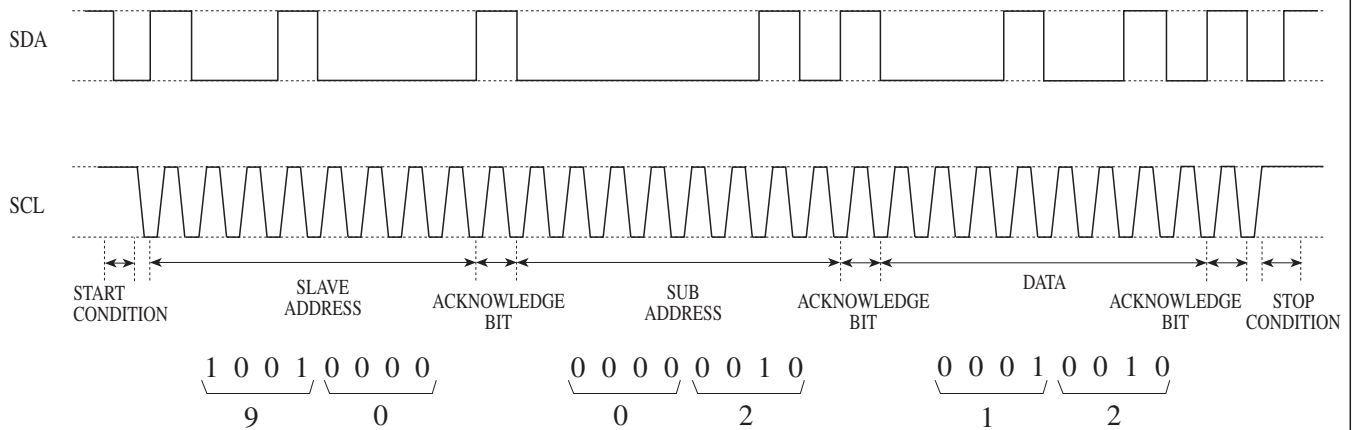

Fig.1 Example of transmission message
- (f) Acknowledge Bit This is a bit by which the master acknowledges that data was successfully received in each octet. Master sends the HI signal and the receiver sends back the LO signal as shown in Figure1 with dotted line, causing the master to acknowledge the reception by the receiver. If the LO signal is not returned, communication will be halted.